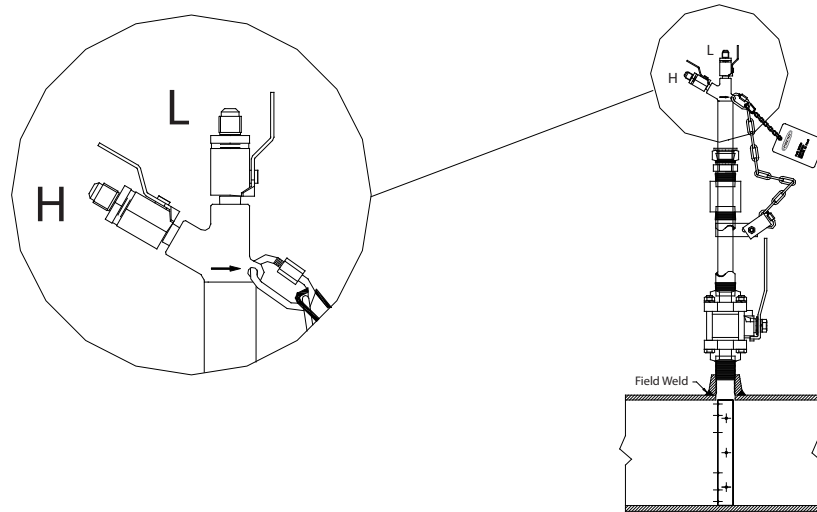

Figure 4: Sensor alignment
11. While holding the BHR Ellipse in its fully inserted position, align the arrow on the sensor head with the direction of flow. See *Figure 4* on page 6.